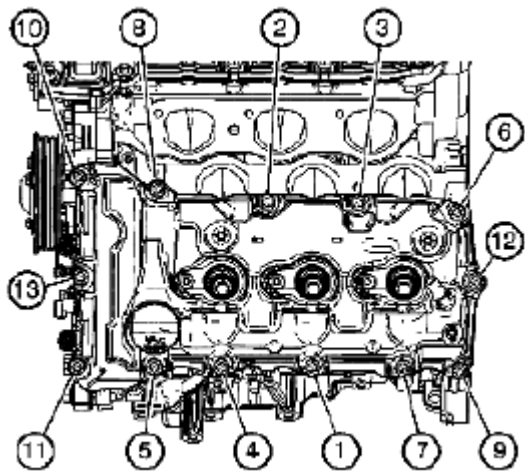

Fig. 965: Tightening Left Camshaft Cover Bolts
8. Tighten the left camshaft cover bolts in the sequence shown in **Fig. 965**.